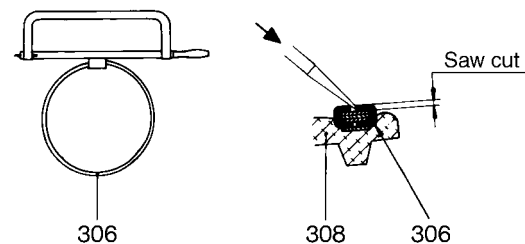

Figure 2: Removing the joint clamp
- Remove the hexagon nuts (607) and serrated lock washers (608) as well as the hexagon screws (606).
- Pull the suction casing (505) across the rotor (401). Make sure that the finely crafted rotor is not damaged.
- Take off the gasket for suction casing (501).
- Saw open the lock on the joint clamp (306) with a metal saw and press it out on both sides with a screwdriver. Take the joint clamp (306) off the joint collar (308) (see figure 2).